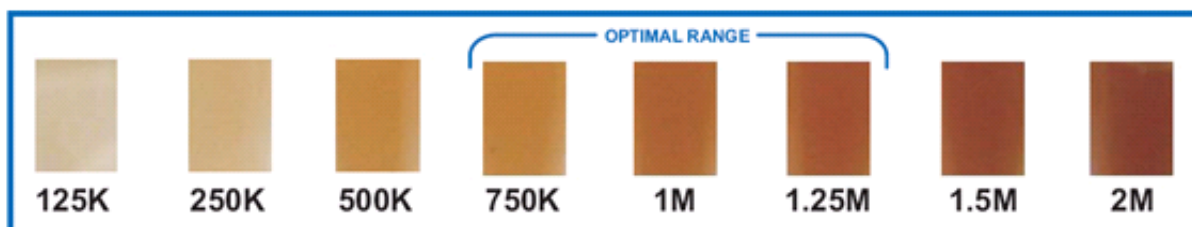

Figure 17 The SOLiD™ Bead Concentration Chart. For best results, use the SOLiD™ Bead Concentration Chart (PN 4415131), supplied separately.
4. Use the SOLiD™ Bead Concentration Chart (Applied Biosystems PN 4415131) to estimate the bead concentration of the beads (see Figure 17).